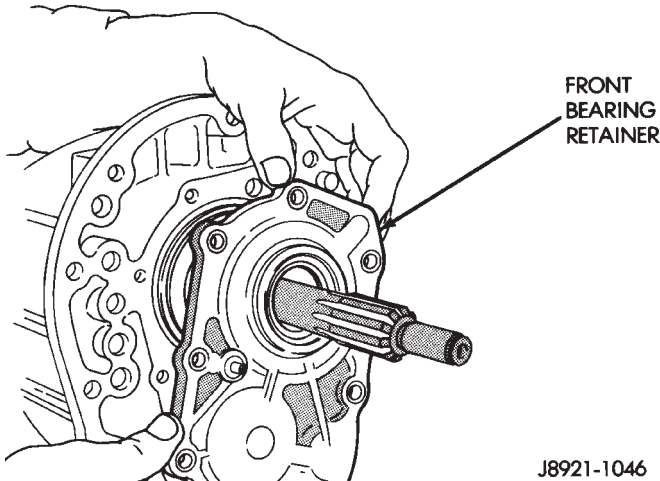

Fig. 39 Install Front Bearing Retainer
(5) Apply 1/8 inch wide bead of Threebond® Liquid Gasket TB1281, P/N 83504038, to the front bearing retainer sealing surface.
(6) Install the front bearing retainer (Fig. 39) and tighten bolts to 17 N·m (12 ft. lbs.).
(7) On 4x2 transmissions;